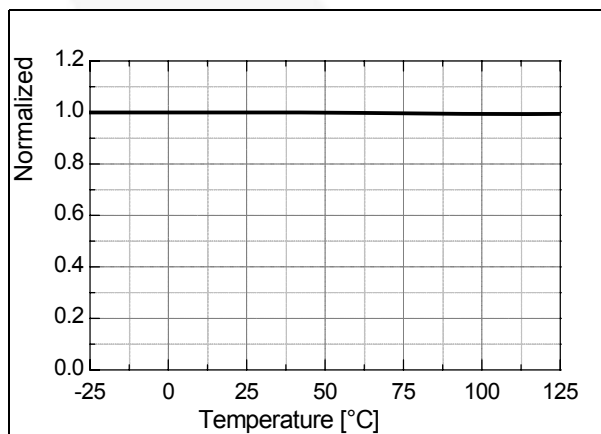

Figure 29. Sync High Threshold Voltage 2 (V_{SH2}) vs. T_A
4.1 Overload Protection (OLP): Overload is defined as the load current exceeding its normal level due to an unexpected abnormal event. In this situation, the protection circuit should trigger to protect the SMPS. However, even when the SMPS is in the normal operation, the overload protection circuit can be triggered during the load transition. To avoid this undesired operation, the overload protection circuit is designed to trigger only after a specified time to determine whether it is a transient situation or a true overload situation. Because of the pulse-by-pulse current limit capability, the maximum peak current through the SenseFET is limited, and therefore the maximum input power is restricted with a given input voltage. If the output consumes more than this maximum power, the output voltage (V_O) decreases below the set voltage. This reduces the current through the opto-coupler LED, which also reduces the opto-coupler transistor current, thus increasing the feedback voltage (V_{FB}). If V_{FB} exceeds 2.5V, D1 is blocked and the 5 μ A current source starts to charge CB slowly up to V_{CC} . In this condition, V_{FB} continues increasing until it reaches 6V, when the switching operation is terminated, as shown in Figure 29. The delay time for shutdown is the time required to charge C_{FB} from 2.5V to 6V with 5 μ A. A 20 ~ 50ms delay time is typical for most applications.